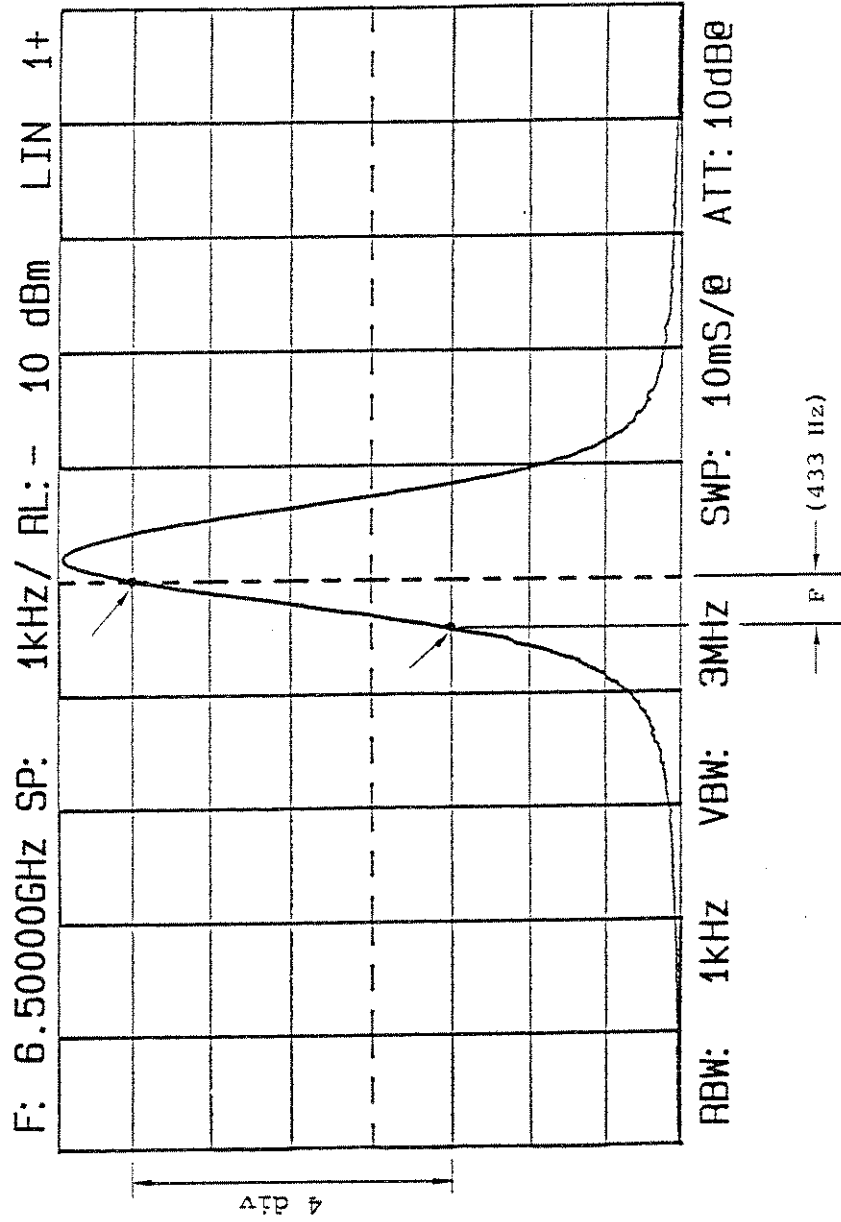

Fig. 8-13 Residual FM to AM Conversion Sensitivity Test Sample CRF Display
3	Correlate the MS710[] REF LEVEL to the synthesizer output level. Fine-adjust the center frequency of the MS710[] so that the CRT display shown in Fig. 8-13 is obtained.
4	Set to the WRITE-off (STORE) state and find the frequency difference (F) between the points at which the horizontal axis is crossed at the second and sixth scale lines from the top as shown in Fig. 8-13 (in the example, 433 Hz).